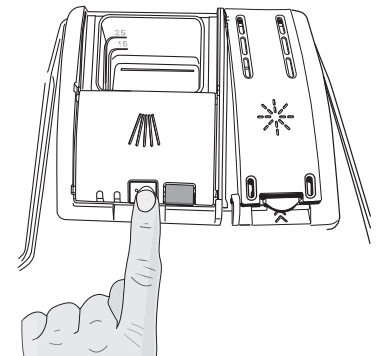

Figure 6
- To open the cover, push the button as shown in **Figure 6**.